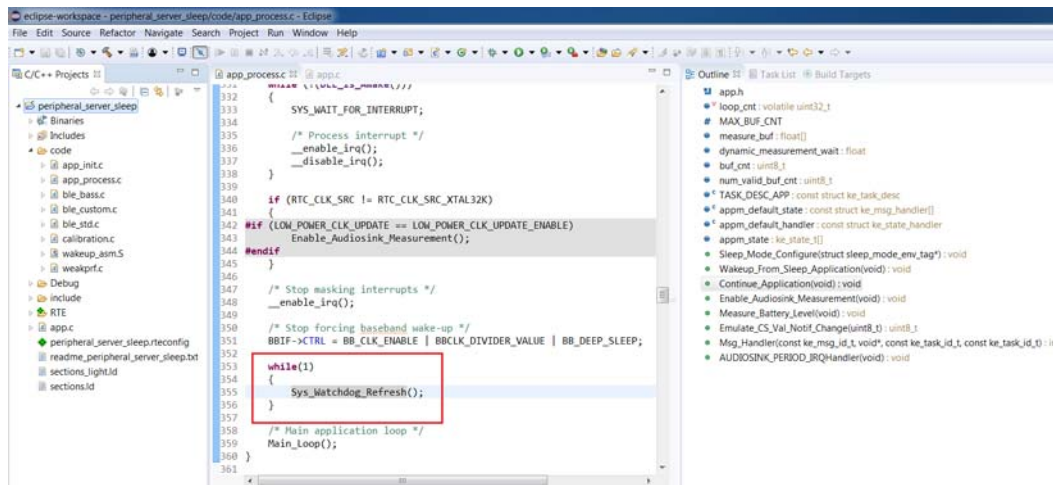

Figure 40. Continue_Application Function Perspective After Adding While Loop
2. Modify the function `void Continue_Application(void)` by adding a `while` loop before the `Main_Loop()`; call, to make sure that the device stays awake in the infinite loop after waking up (see Figure 40). Save and compile your application.